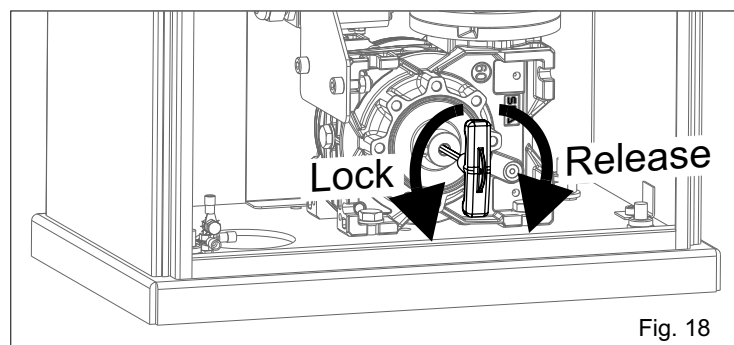

Fig. 18
- Insert the delivered red release key and **turn it clockwise until it stops, do not force** (Fig. 18).
- Turn the red release key **anti-clockwise until it stops, do not force** (Fig. 18).